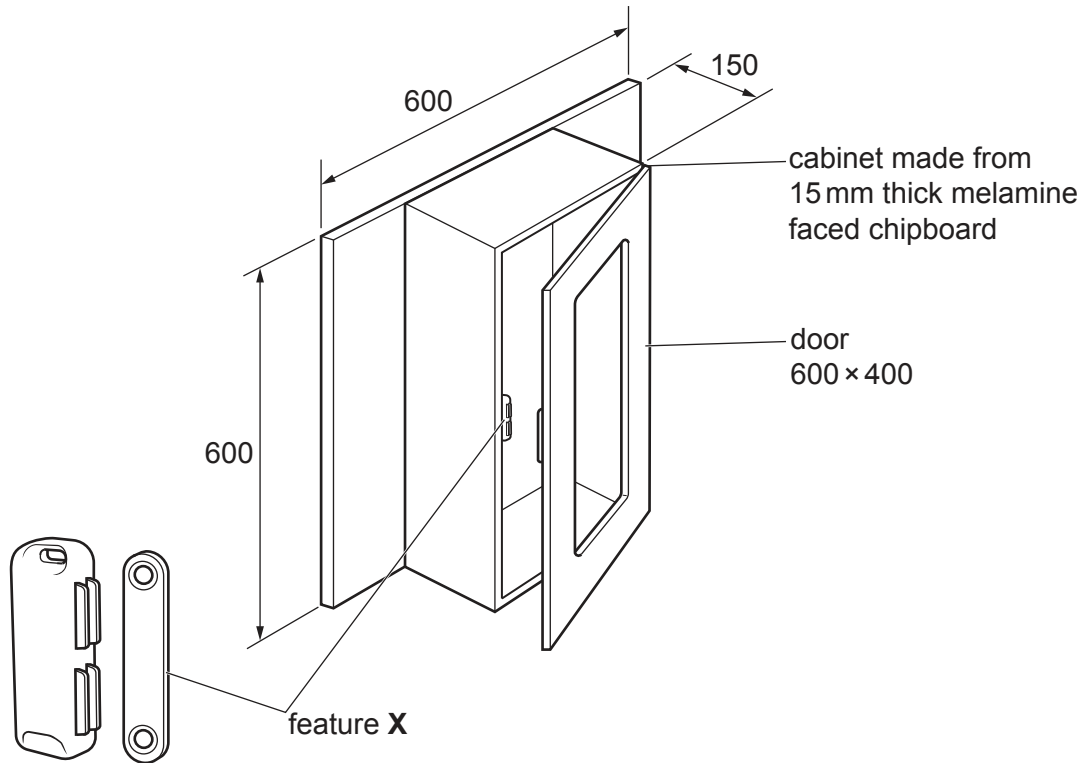

Fig. 4.1
- 4 Fig. 4.1 shows an incomplete design for a bathroom cabinet.